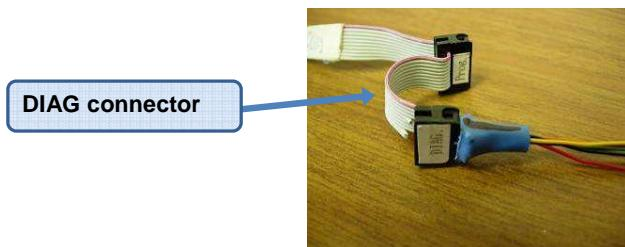

Figure 7-6 Plugging programming pig-tail into DIAG port for use with HIL
5. The next step requires the use of the autopilot programming cable with the 5 wire programming connector. This is provided by Procerus. Plug the 5 wire pig tail in the **DIAG connector** on the programming cable (see Figure 7-6).